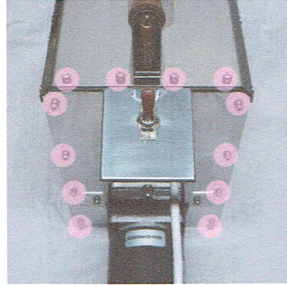

Figure 2
- b. Remove bolts : Loosen the eight bolts on the back of the product shown in Figure 2 and the four bolts on the top of the back using a enclosed wrench. (If the bolt is pressed by high temperature, remove it by turning it with a pliers or the like.)